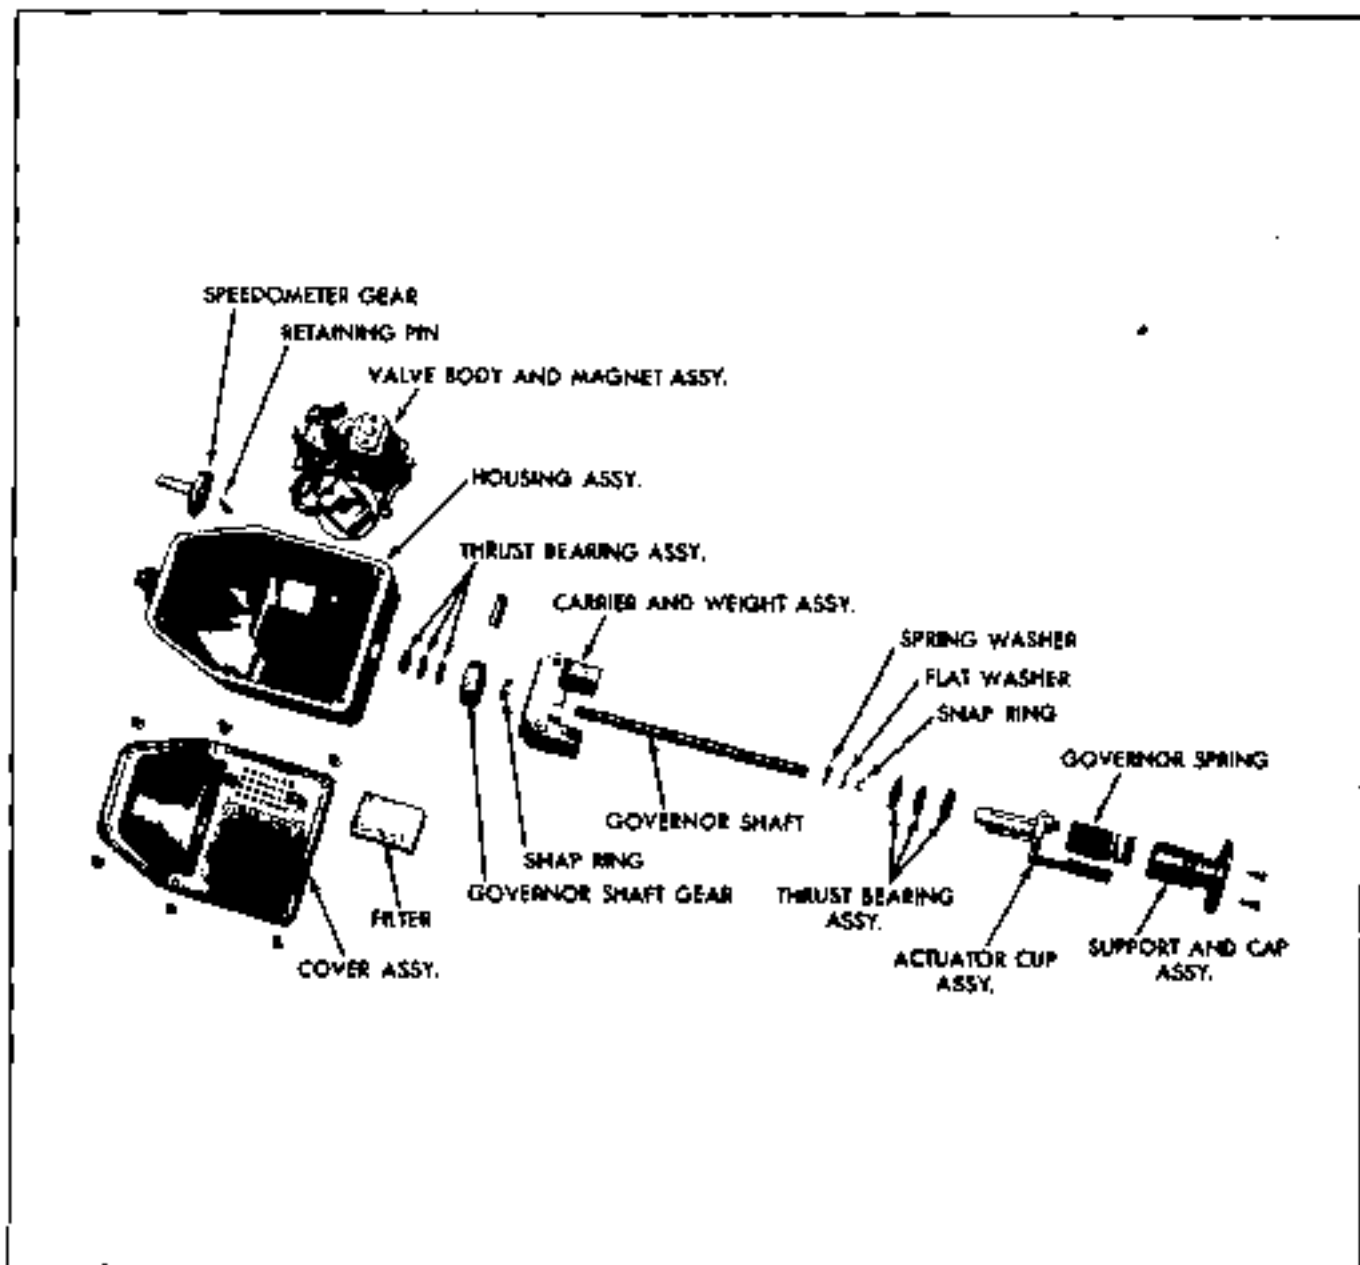

Fig. 15-4 Exploded View of Regulator
REGULATOR - DISASSEMBLE (Fig. 15-4)
5. Slide the governor assembly away from the speedometer drive adapter end until the shaft is free of bearing. This will allow the governor assembly to be removed from the regulator. For further disassembly of governor, see Fig. 15-4.